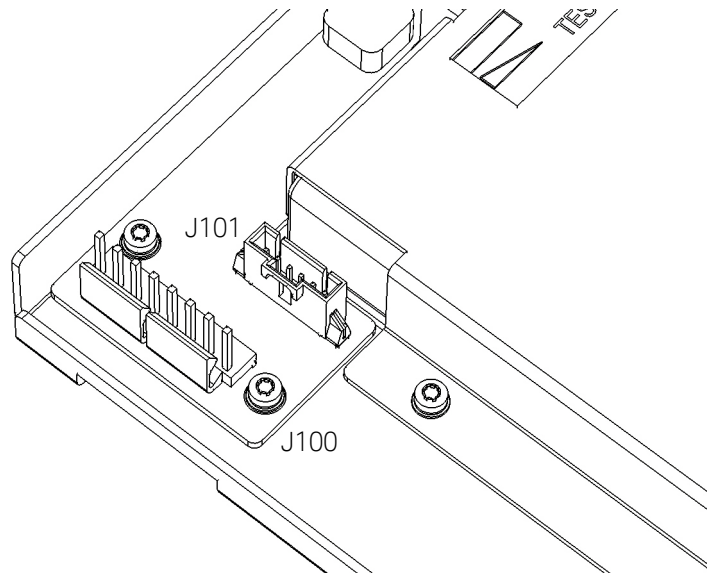

Figure 4-5 Battery assembly connectors
- 8 Set the Battery assembly on its back on the right-hand side of the chassis and insert the three small plastic tabs on the chassis into the three slots on the assembly deck. Now, first connect the digital cable (just installed) to the battery charger assembly 6-pin (J101) PC board connector. Next, connect the 8-pin cable to (J100). (See Figure 4-5.)